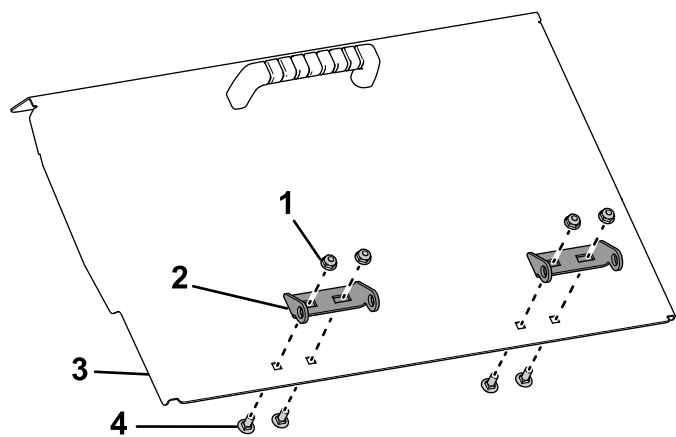

Figure 7
- Loosely install the hinge to the hopper door using the supplied carriage bolts (1/4 x 5/8 inch) and locknuts (Figure 7). Line up the hinge on the door with the hinge on the machine and then tighten the fasteners.